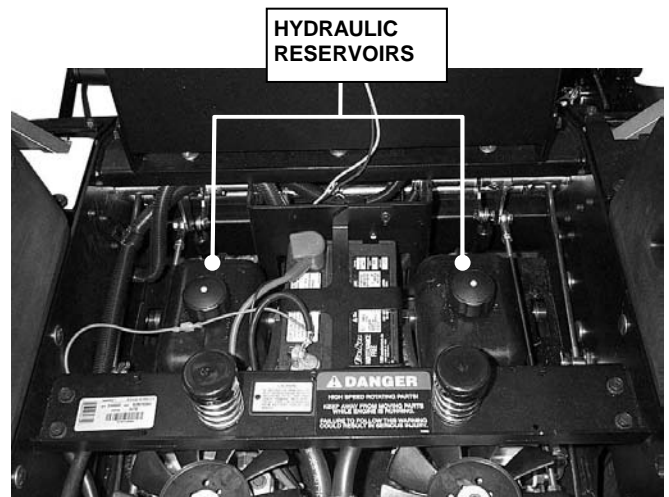

FIGURE 3
A. Locate hydraulic reservoir underneath operator's seat. After thoroughly cleaning the area around the top of the reservoir, remove filler cap. Bring fluid to proper level (1 ½" below the top of the filler neck). With engine off, add SAE 20W50 automotive oil. See Figure 3.